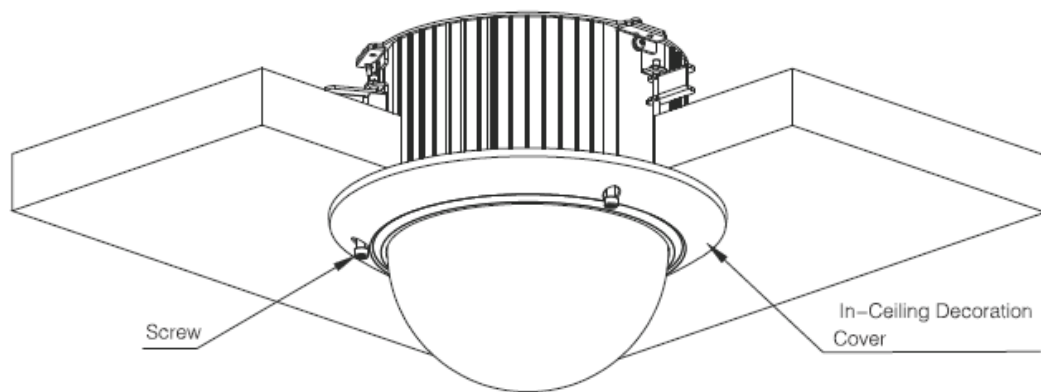
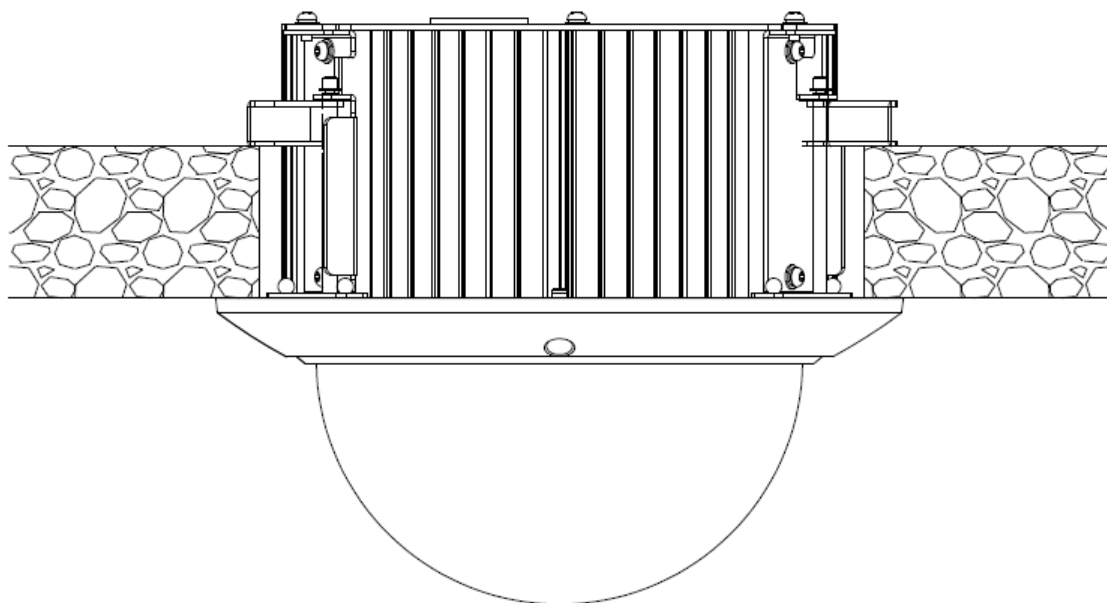

Figure 3-8
Figure 3-9
- 3) Please refer to Figure 3-8 to use three screws to fix the in-ceiling decoration cover on the in-ceiling mount components. See Figure 3-9.